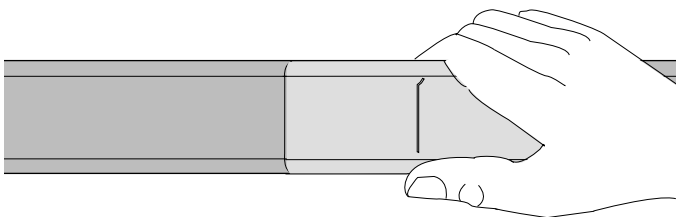

Figure 6
4.6 If the closure is split, gently bend the closure to expose the split (Figure 6). *Be careful not to inflict any further damage.*